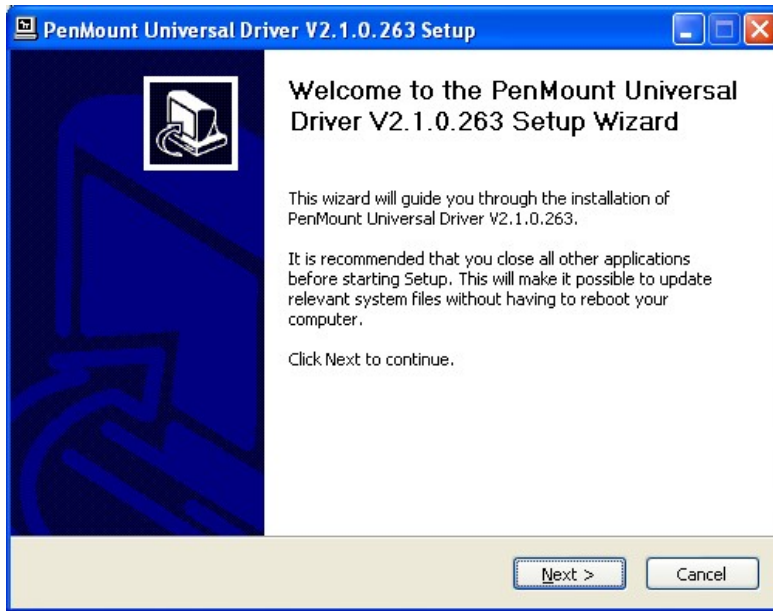

Figure 6-25: PenMount Welcome Screen
Step 4: The **Welcome Screen** appears (**Figure 6-25**).